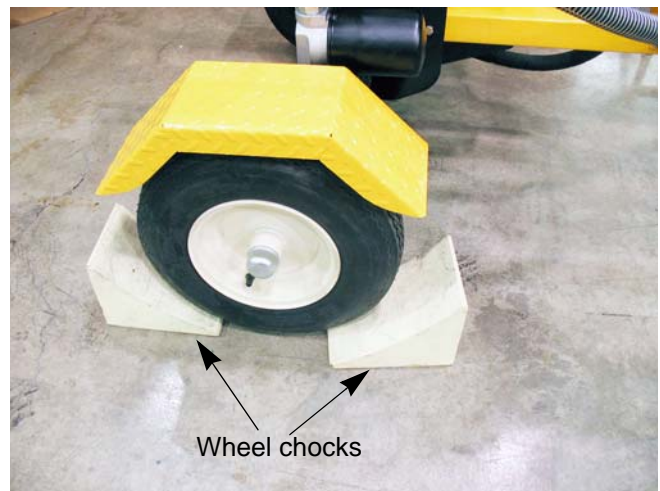

Figure 5.7
2. Block the wheels of the log splitter to prevent it from moving. See Figure 5.7.